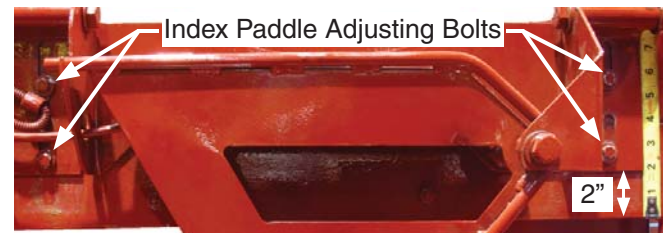

Figure 26 - Limit Switch - 7, Mount Adjustment
1. Adjust the arm to properly contact the Index Paddle. The actuator should not be positioned such that it will bind and bend when contacting the cam surface. This will happen if the roller is adjusted to contact the surface at a perpendicular angle (see Figure 26).